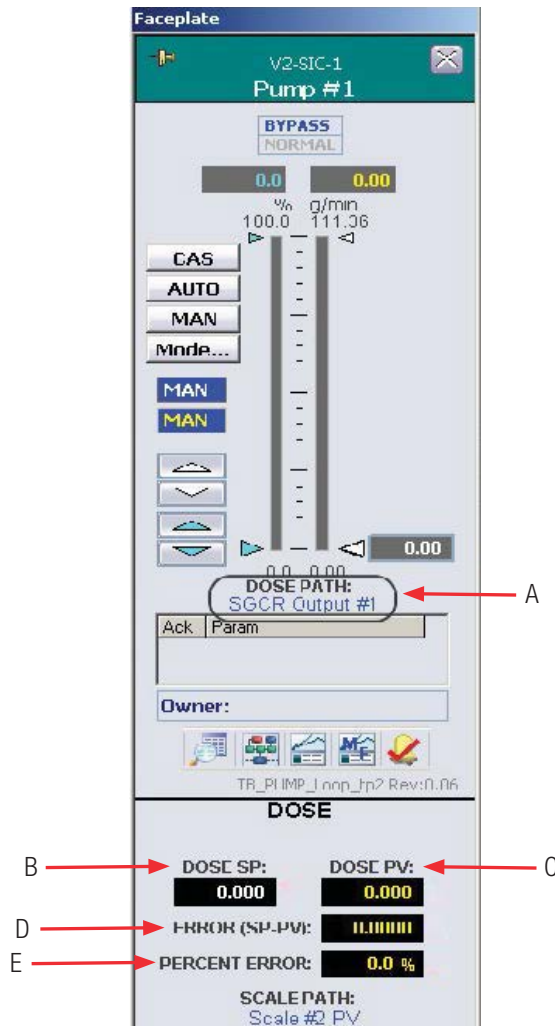

Figure 4.36. Dose path Pump #1 faceplate.
4. In the Main screen, open the faceplate for the same pump. The faceplate will have a slightly different appearance (Figure 4.36).
The following features are identified on Figure 4.36: